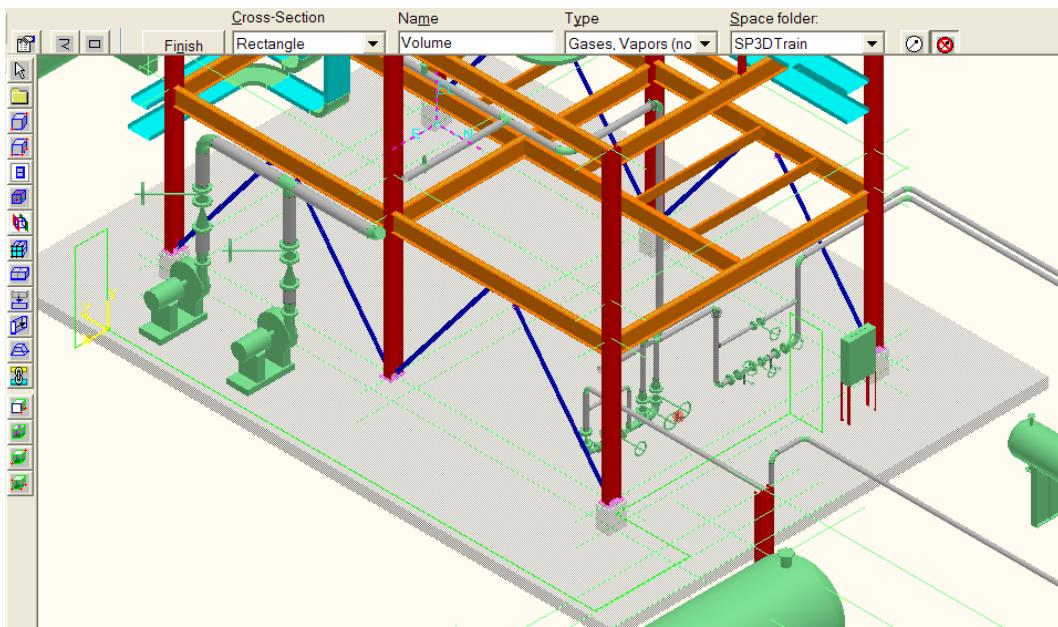

Figure 20: Defining Path of Volume
3. Click Finish on the Path ribbon to complete the path. The shape last used with the command in the current session will be displayed relative to the path by default. See Figure 20.